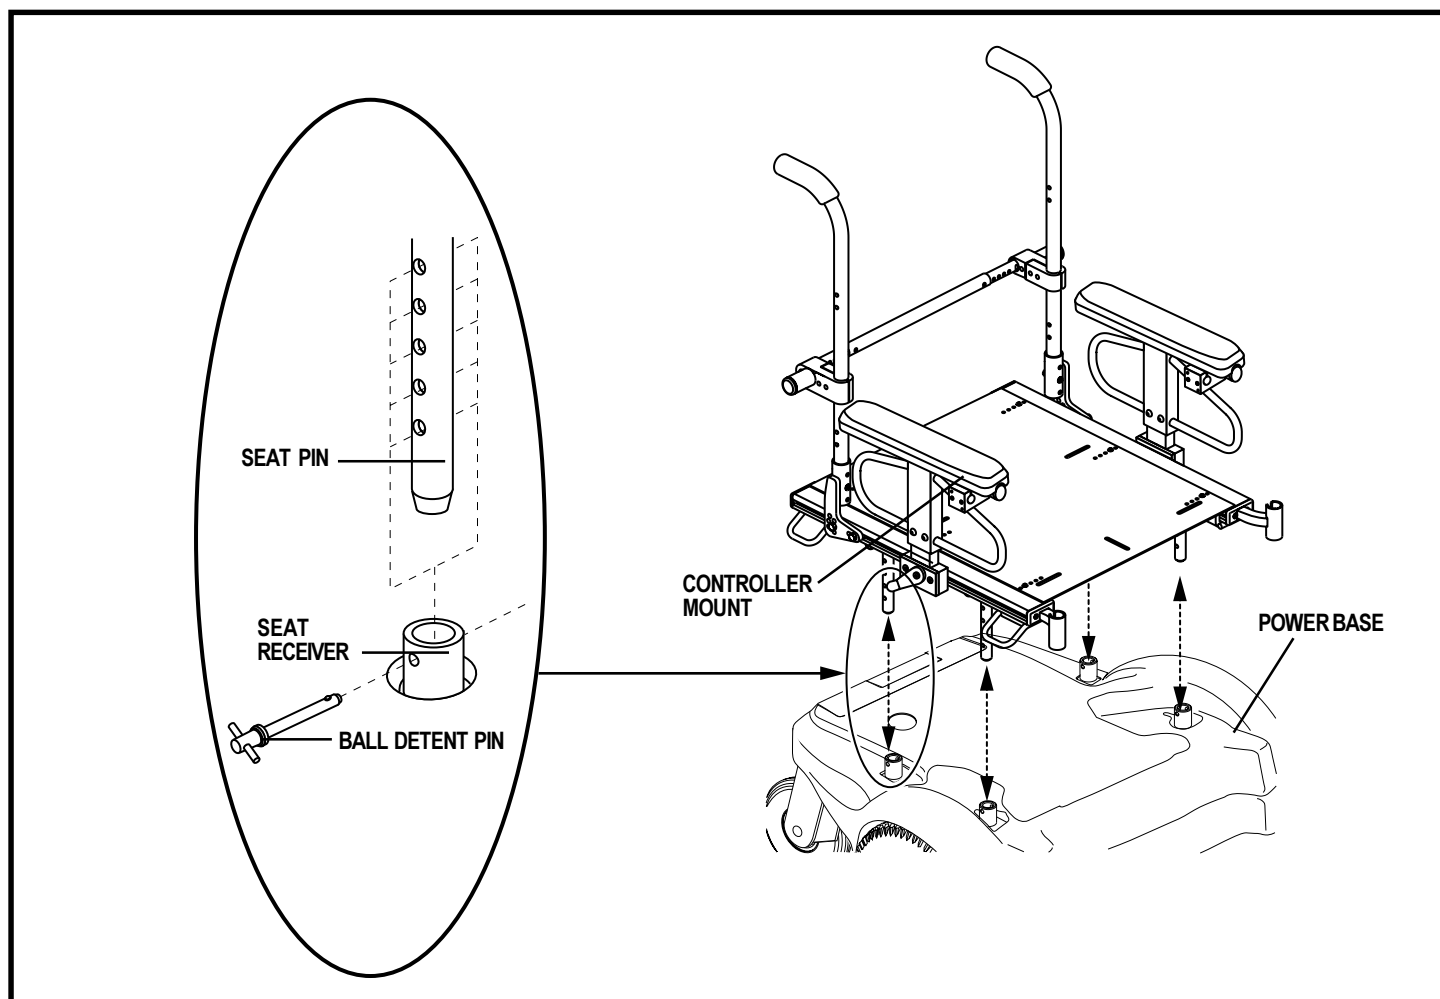

Figure 9. Seat Installation/Removal (typical)
2. Align each seat pin with the corresponding receiver. See figure 9.
3. Remove the ball detent pins from the seat receivers. See figure 9.